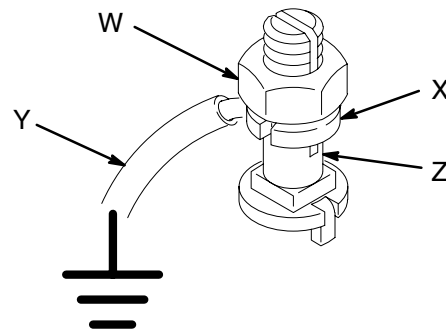

Fig. 1
1. *Pump*: use a ground wire and clamp. See Fig. 1. Loosen the grounding lug locknut (W) and washer (X). Insert one end of a 1.5 mm² (12 ga) minimum ground wire (Y) into the slot in lug (Z) and tighten the locknut securely. Connect the other end of the wire to a true earth ground. Order Part No. 237569 Ground Wire and Clamp.